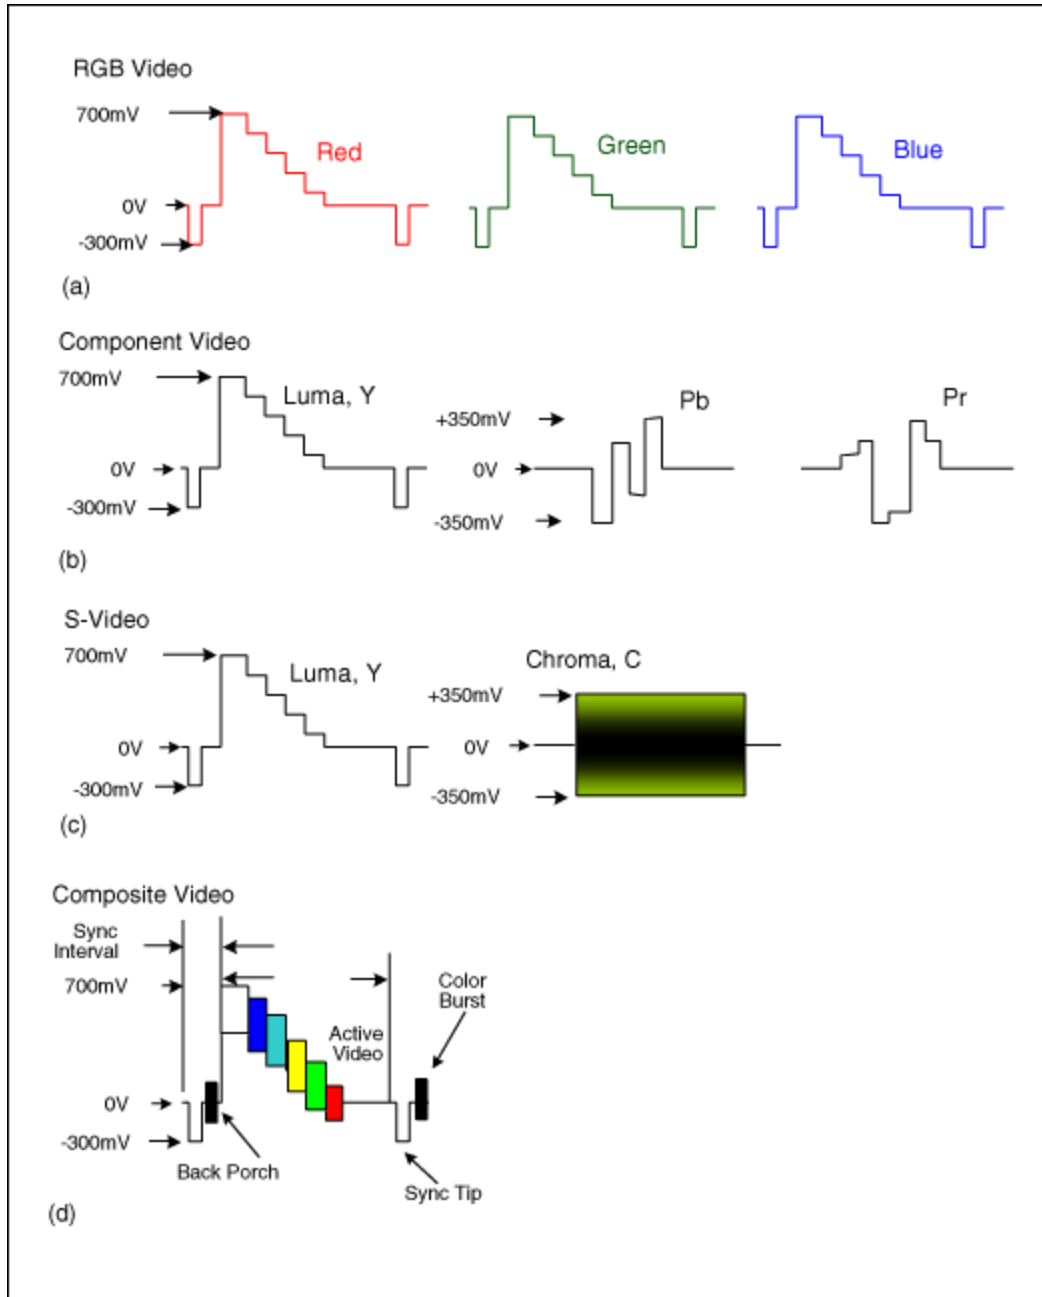

Figure 2. These RGB (a), Component (b), S-Video (c), and Composite (d) Video Signals show the Sync interval, Active video, Sync Tip, and Back Porch.
The video signals you will likely encounter are shown in **Figure 2**, with the standard amplitudes found in video interfaces (see EIA 770-1, 2, and 3). Chroma in S-Video, and Pb and Pr in component video, resemble the sine wave varying around a reference point, as noted above. Luma (Y), composite, and RGB only vary in a positive direction from 0V (called the "black" or "blank" level) to +700mV. This is due to a tacit agreement within the industry and not to any standard. Note that they all are complex waveforms with a sync interval that may or may not be defined or even used. For example, Figure 2 shows RGB with sync as used in NTSC and PAL formats. In PC (graphics) applications, the sync is a separate signal, and RGB doesn't have it attached. In single-supply applications, such as a DAC output, the quiescent levels could be different during the sync interval. This will influence the choice of bias method. For example, if the quiescent level of chroma isn't 0V during the sync interval in a dual-supply application, it will be more pulse-like than sinusoidal.